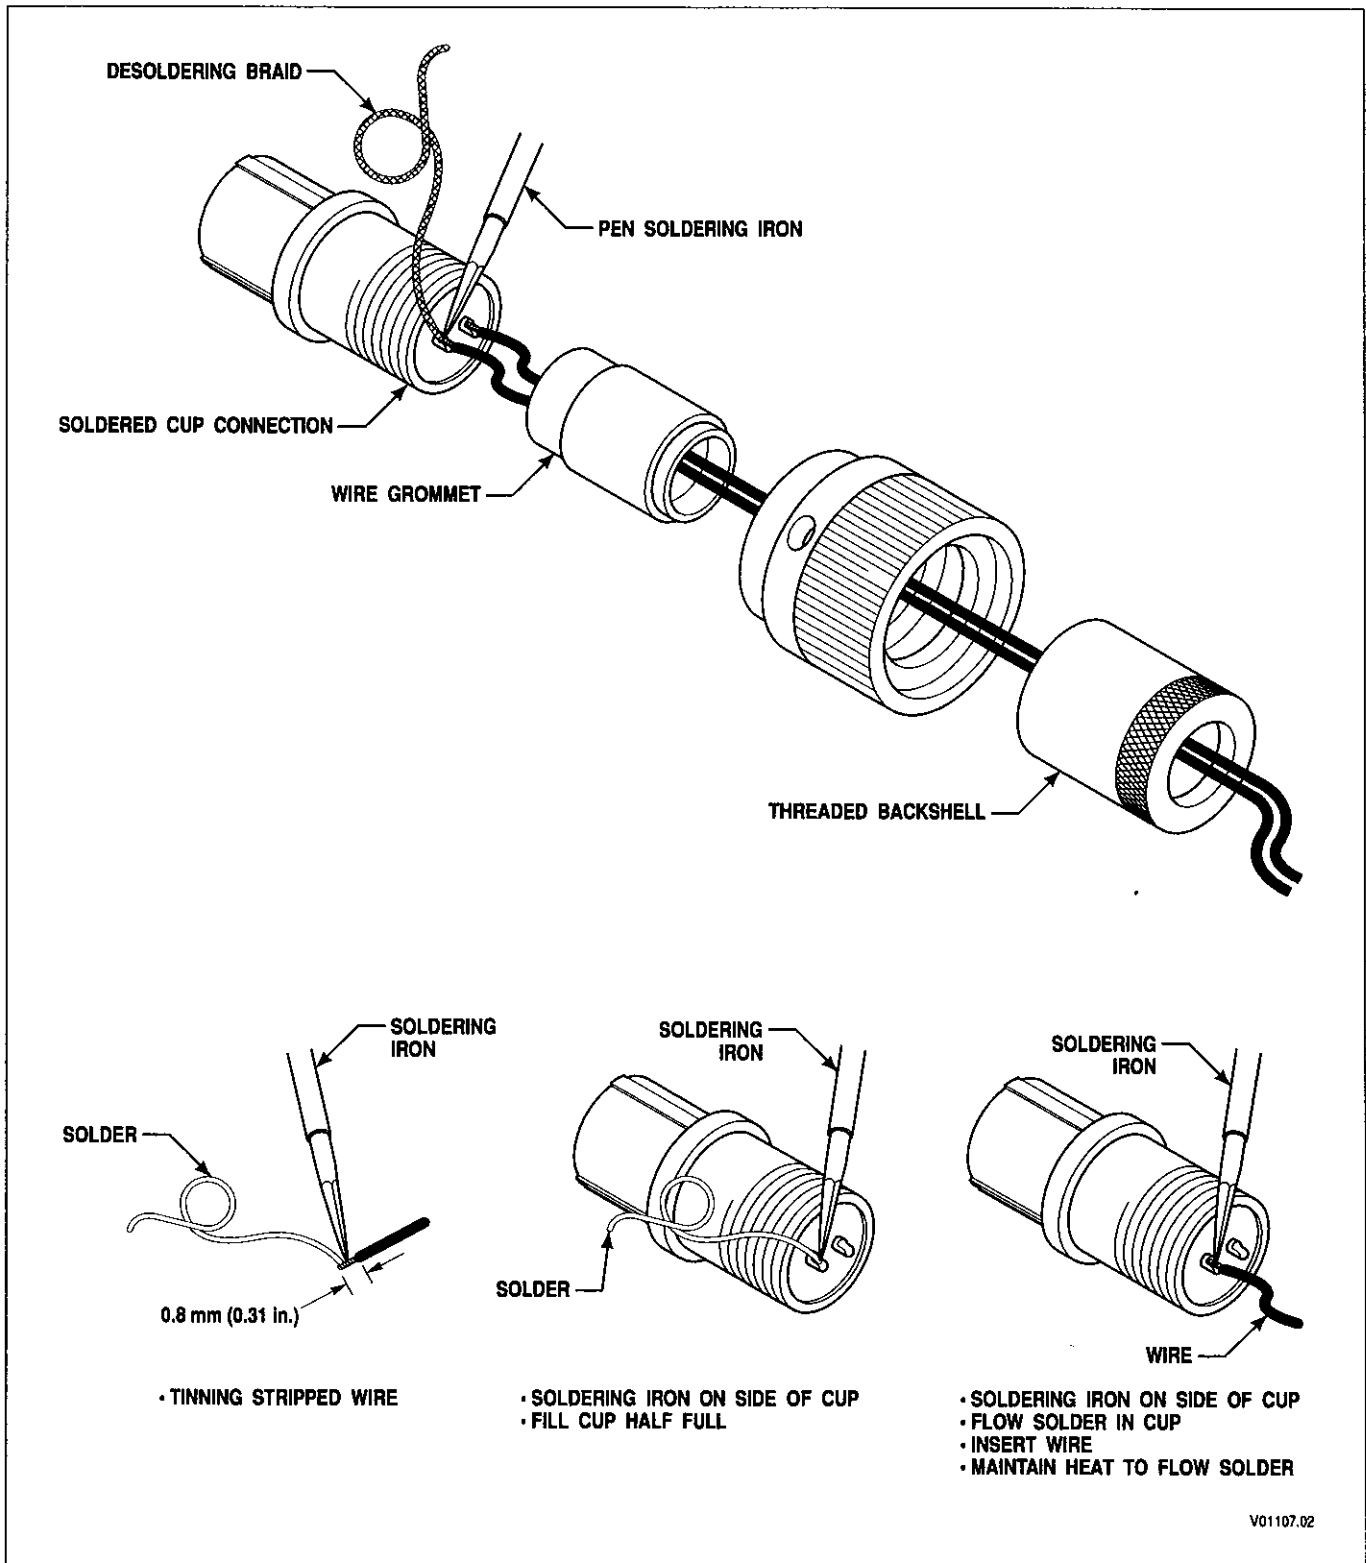

Figure E-12. ITT Cannon Connectors — Soldered (2-Way HD Retarder)
B. Terminal Removal (Refer to Figure E-12)
C. Terminal Crimping (Refer to Figure E-12)
2. Push the terminal and wire into the connector until it locks into position (refer to Figure E-12). Check the front of the connector to see that the terminal is at the same height as other terminals. Tug on the wire at the rear of the connector to ensure that the terminal is locked in place.